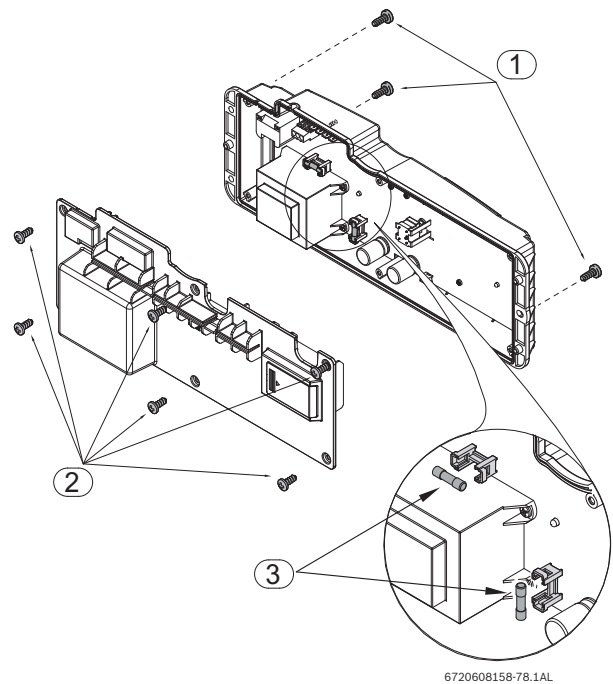

Fig. 44 Fuses position
- Remove the six screws from the back cover of the control unit, see Fig. 44, pos. 2.
- Check the fuses in the printed circuit board, see Fig. 44, pos. 3.